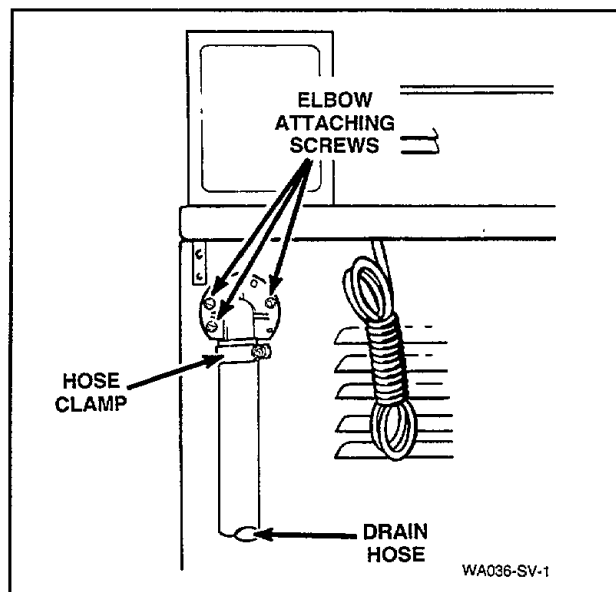

Figure 14
13. DRAIN HOSE ELBOW (Refer to Figure 14)